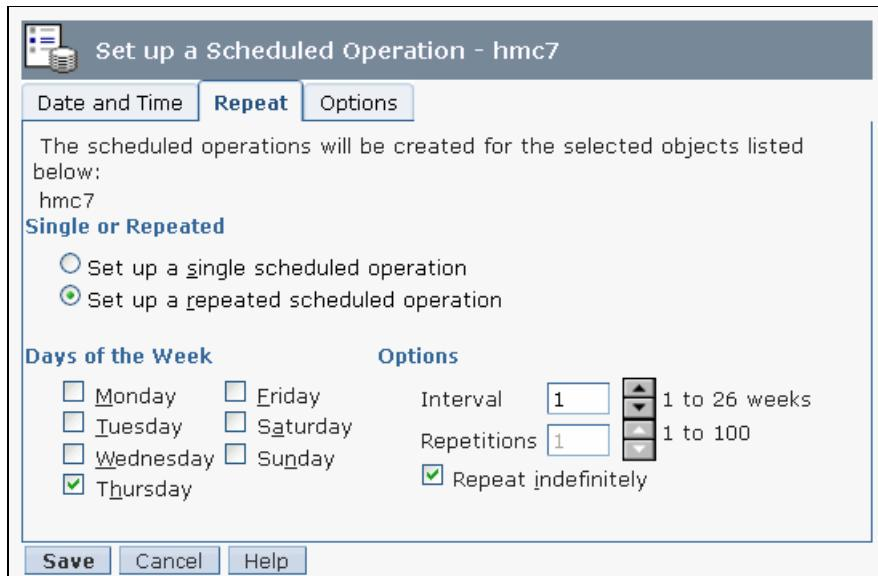

Figure 6-26 Scheduled backup HMC Data Repeat tab
4. On the Repeat tab (Figure 6-26), select the repeat options for the backup.